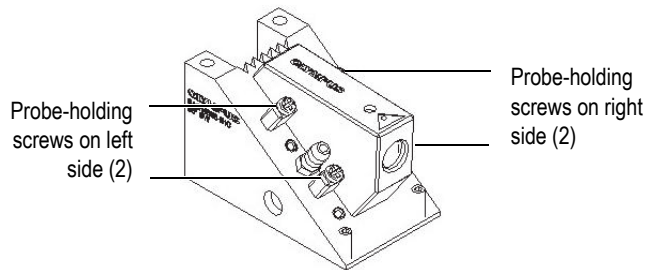

Figure 2-1 Probe and screws on wedge
1. Mount the probe on the wedge (see Figure 2-1 on page 25). Make sure that sufficient couplant is applied between the probe face and wedge.